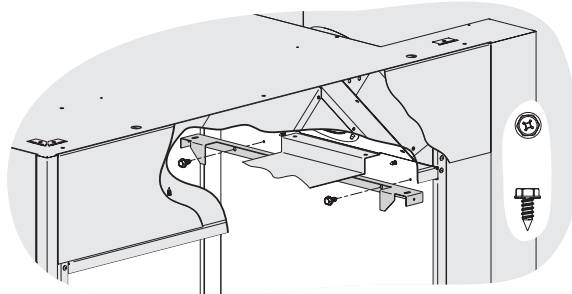

Figure 63
7. Attach a second brick bracket to the top of the firebox wall using two sheet metal screws as shown in **Figure 63**.